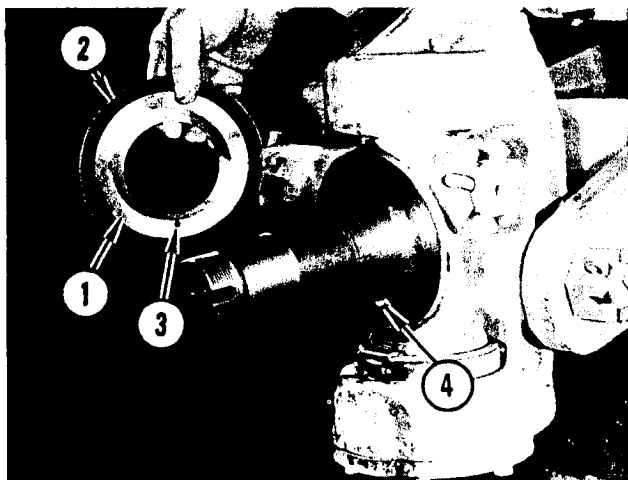

FIGURE 4. SPINDLE DISASSEMBLY
Refer to Figure 4. Remove spacer and felt seal (2) from spindle. NOTE: When installing spacer on spindle, make certain that drilled hole (3) in spacer fits over dowel (4) in spindle hub.